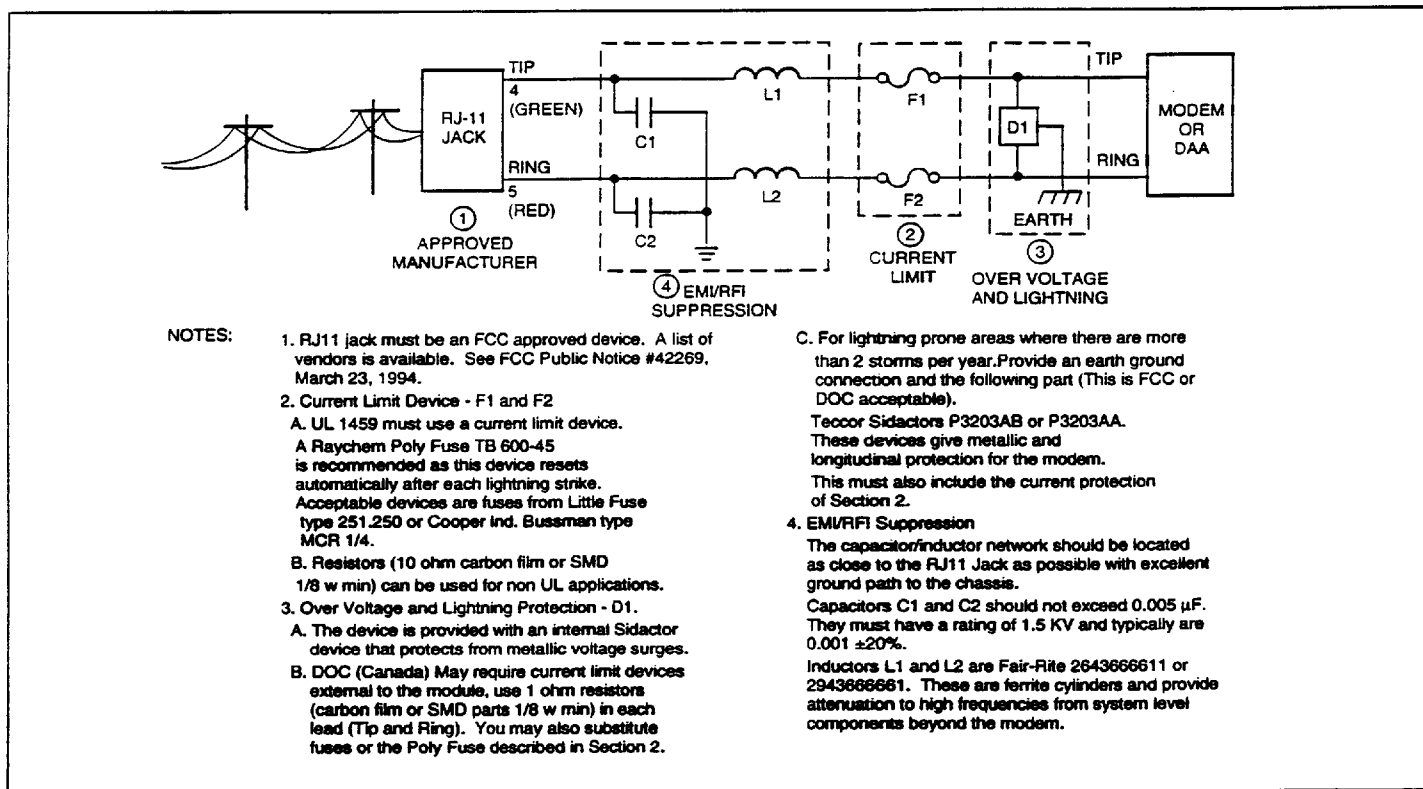

Figure 5. Telephone Line Interface.
- 6) No additional circuitry other than that shown in Figure 5 may be connected between the modem module and the RJ-11C jack.